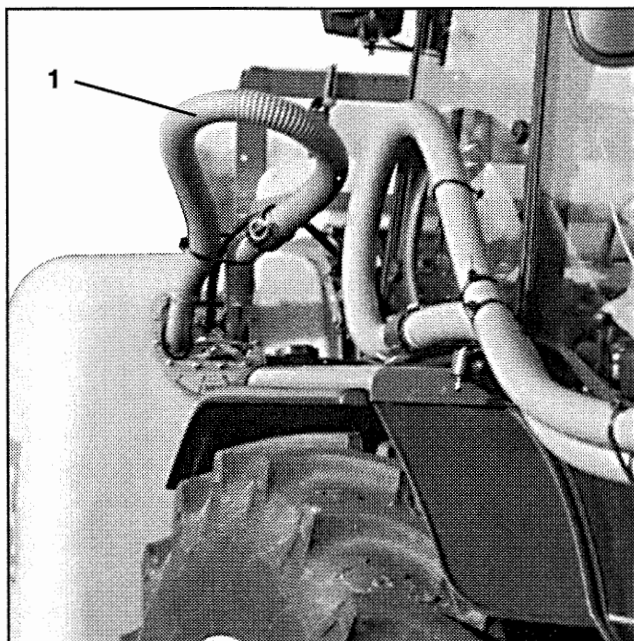

Fig. 7.6
- To protect the hose couplings couple the hose ends together (Fig. 7.6).
- Connect hose ends via their couplings with one another (Fig. 7.6).